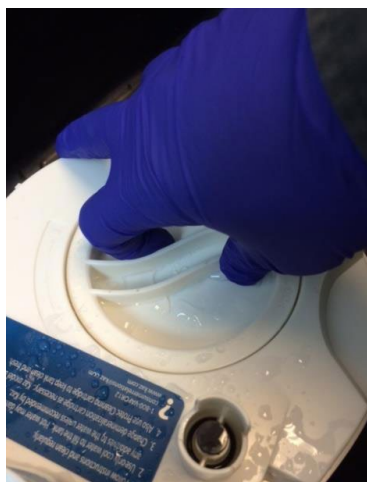

Figure 18. Closing the Reservoir.
3. Close the cap securely and place the reservoir back onto the humidifier base unit (Figure 18).